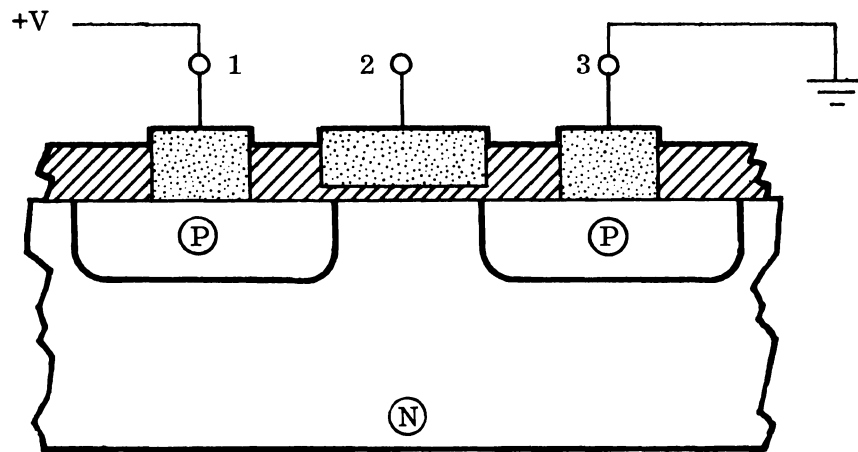

FIGURE 2
3. Which type of MOSFET is shown in Figure 2? _____